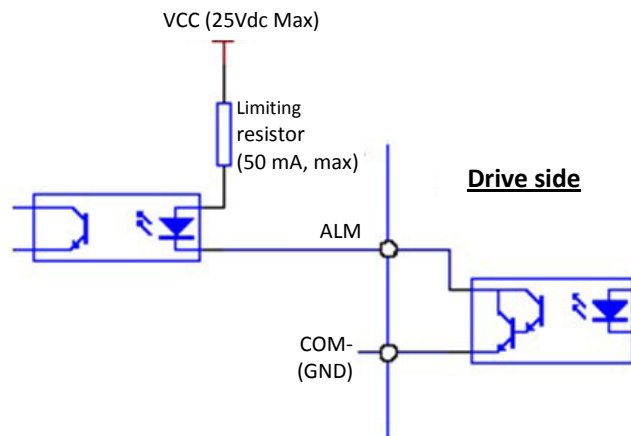
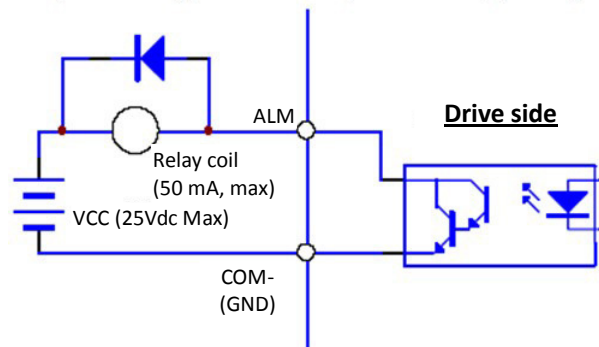

Figure 4-2a
Figure 4-2b
- ② Use Darlington transistor for the output, connected with the opto-coupler (Figure 4-2a) or relay (Figure 4-2b);
- ② External power supply is provided by the user, but note that if the power supply polarity is reversed, the servo drive would be damaged;
- ② The output is an open-collector opto-transistor, with the maximum current of 50mA, and external power supply voltage of 25Vdc. Therefore, the load must meet this limit. If it exceeds this limit or the output is directly connected to the power supply, the servo drive would be damaged;
- ② If the load is inductive load (e.g. relay in figure 4-2b), anti-parallel freewheeling diode is required. If the polarity of freewheeling diode is reversed, damage to the servo drive and the diode itself may occur;
- ② The output transistor is a Darlington transistor. In the conduction, the voltage drop V_{ce} between the collector and the emitter is about 1V, which cannot meet the TTL low level requirements, and should not be directly connected with the TTL IC;